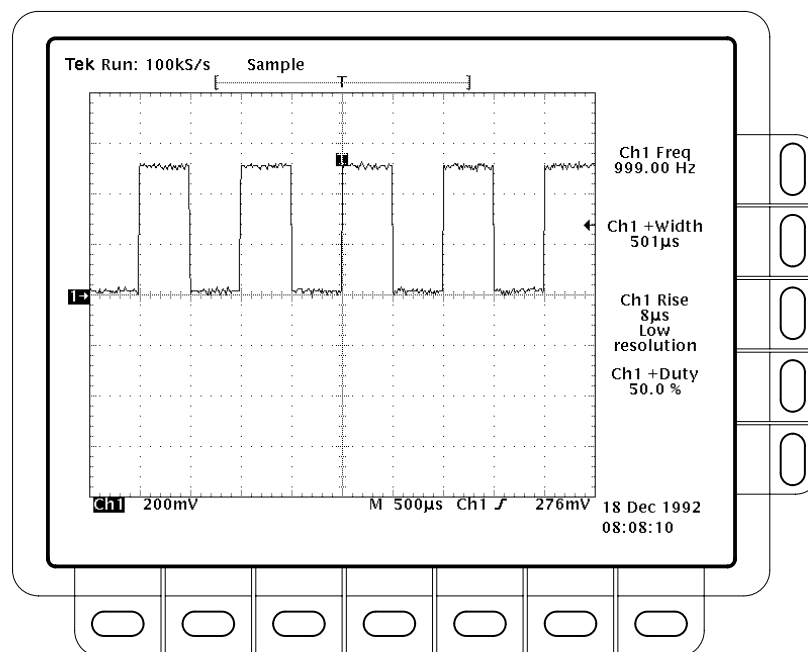

Figure 2–15: Four Simultaneous Measurement Readouts
8. To move the measurement readouts outside the graticule area, press **CLEAR MENU** (see Figure 2–15).